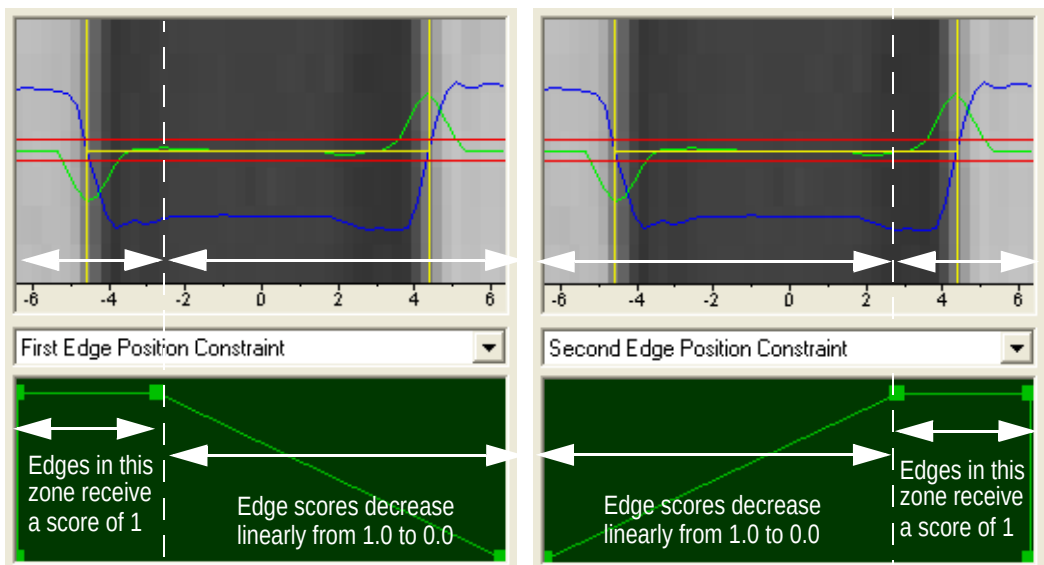

Figure 99 Adjusting Position Constraint Histograms
4. Use the mouse to drag the handles in the histogram window. Set the 1st and the 2nd edge position constraints as illustrated in Figure 99.